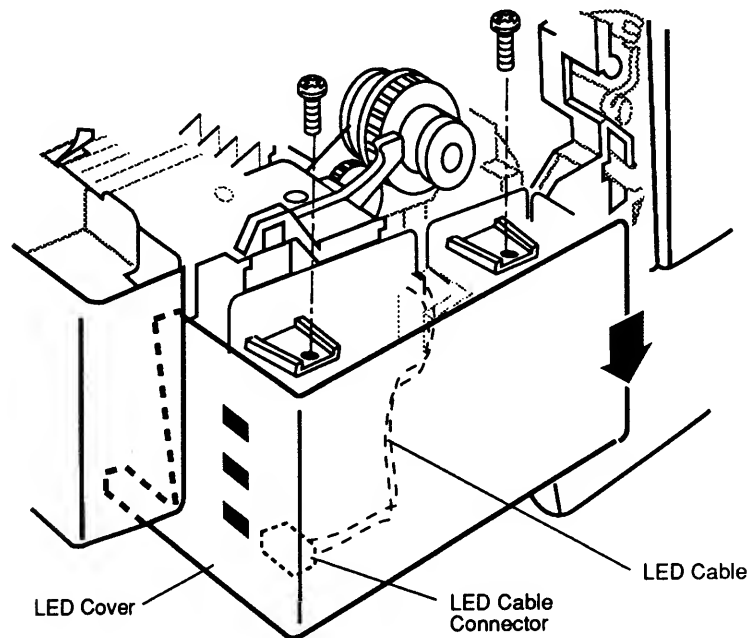

Figure 2-47 LED Cover
2. Remove the two silver-colored screws that secure the LED cover to the front access door **(Figure 2-47)**.
3. Lift the LED cover off the front access door and disconnect the LED cable from the LED holder **(Figure 2-47)**.